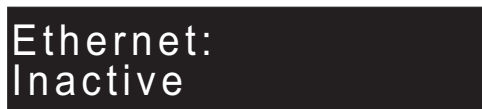

Figure 46. Ethernet mode
7. Press and release the up or down button until the Ethernet option is shown on the front panel display. The second line of the front-panel display in Figure 46 shows the message Inactive. This message indicates that, although an Ethernet connection is available, it cannot yet be used.